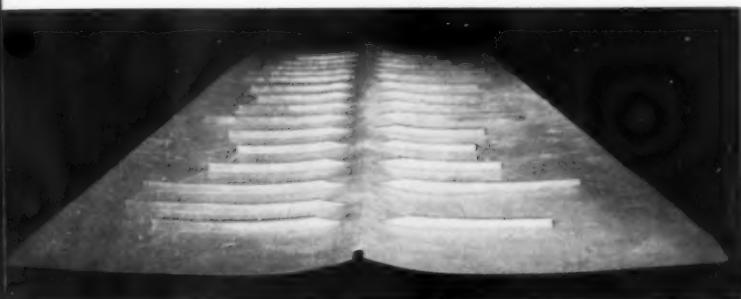
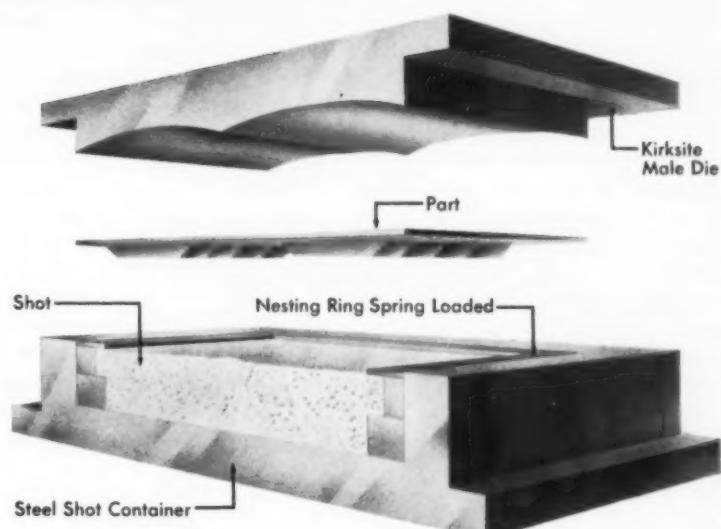

Fig. 2 — This Wing Skin Has Been Formed by Die Quenching in Shot. The thin, high ribs make this part difficult to form by conventional methods
Fig. 3 — This Form Is Used for Shot Quenching. Only one accurately formed die is needed for this method
3. Growth of the parts was inversely proportional to the yield strength of the alloy at temperature. As a typical example of what can be done, consider the large part shown in Fig. 2. Containing numerous thin, high ribs which made it difficult to form by conventional methods, it was satisfactorily formed in metallic shot (Fig. 3). Table II shows that mechanical properties in the die quenched part were adequate even though transverse elongation was below specification limits in the control test plate before and after heat treatment.